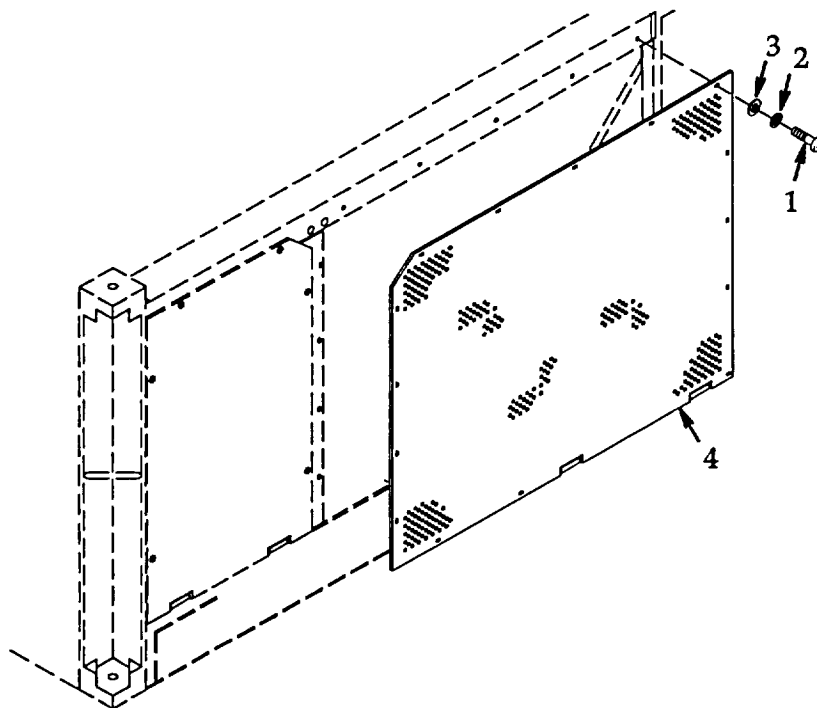

Figure 4-21. Rear Screen.
a. **Removal.** See figure 4-21.
- (1) Shutdown the FDECU per paragraph 2.4.
- (2) Remove 15 screws (1), lock washers (2), flat washers (3), and rear screen (4). Discard lock washers.
b. **Installation.** See figure 4-21.
- (1) Install rear screen (4) and align mounting holes. Secure with 15 flat washers (3), new lock washers (2), and screws (1).
- (2) Connect FDECU to power source and operate per paragraph 2.4.